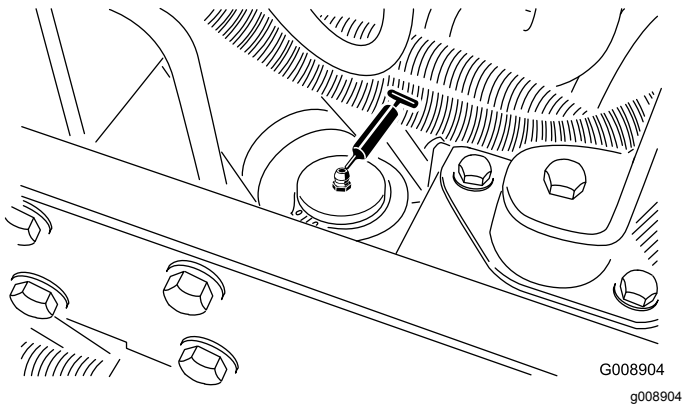

Figure 42
- Neutral-adjustment mechanism (Figure 42)